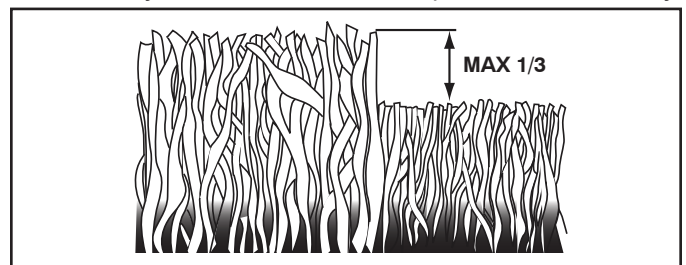

Fig. 27
- For best results, adjust the mower cutting height so that the mower cuts off only the top one-third of the grass blades (See Fig. 27). For extremely heavy mulching, reduce your width of cut on each pass and mow slowly.